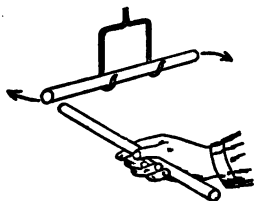

FIG. 208. — Two electrified rods repel each other.
**245. Positive and negative electricity.** If we hang up in a stirrup, suspended by a silk thread, a glass rod which has been rubbed with silk, and then bring near one end of it another glass rod which has also been rubbed, they repel each other (Fig. 208). In a similar way two hard rubber rods or sticks of sealing wax repel each other. But when we bring a rubbed stick of sealing wax near a rubbed glass rod in the stirrup, they attract each other.